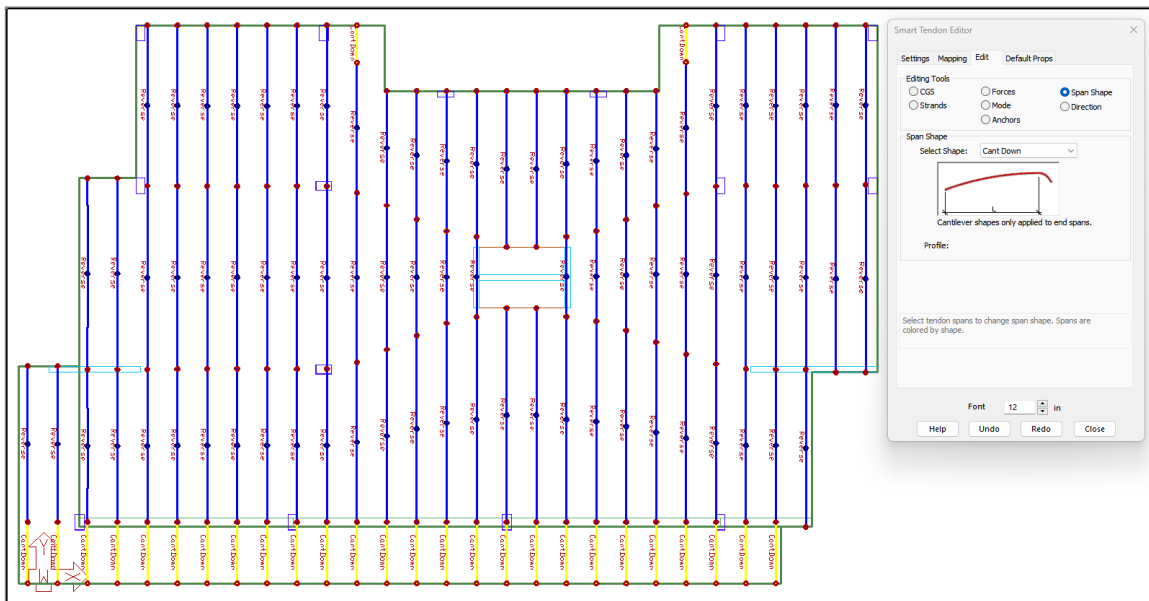

FIGURE 9-80
- Draw a two-point construction line through the first span of the tendons in the balcony slab. When completed your model will look like **FIGURE 9-80**.